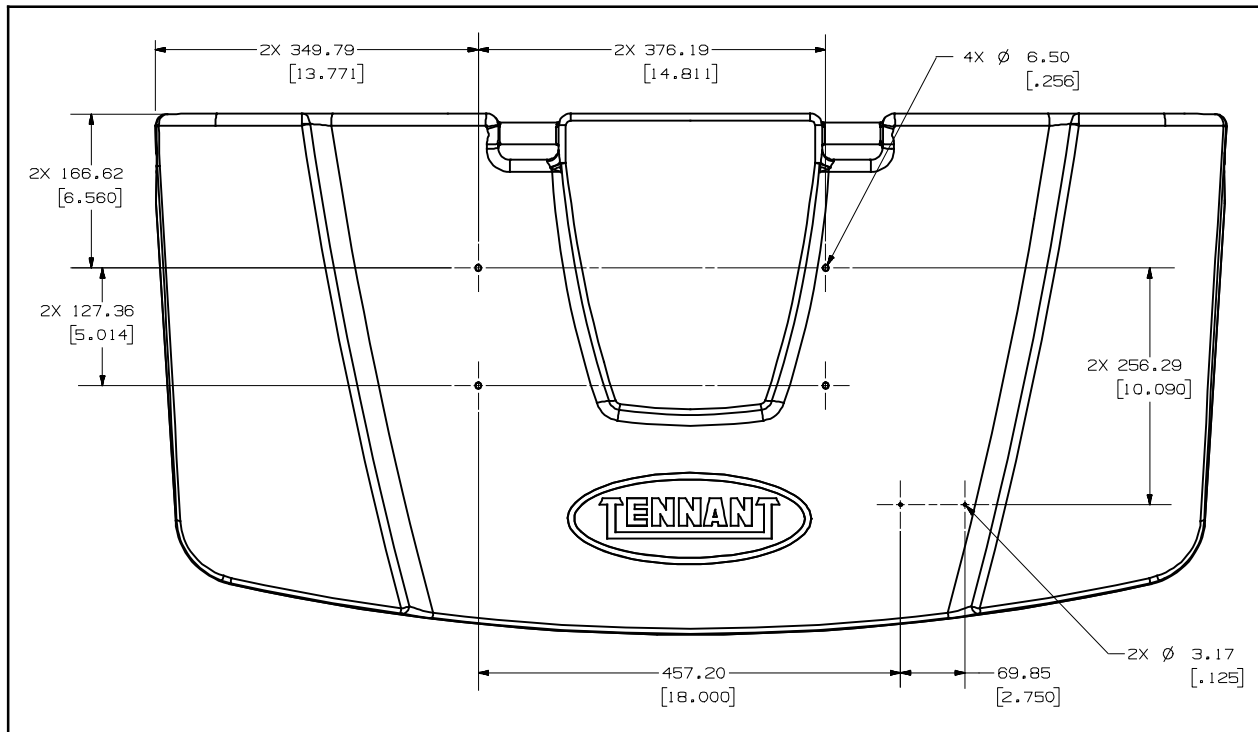

FIG. 1
1. Drill four 6.50 mm (0.256 in.) holes into the top of the recovery tank cover. (Fig. 1)
2. Drill two 3.17 mm (0.125 in.) holes into the top of the recovery tank cover. (Fig. 1)